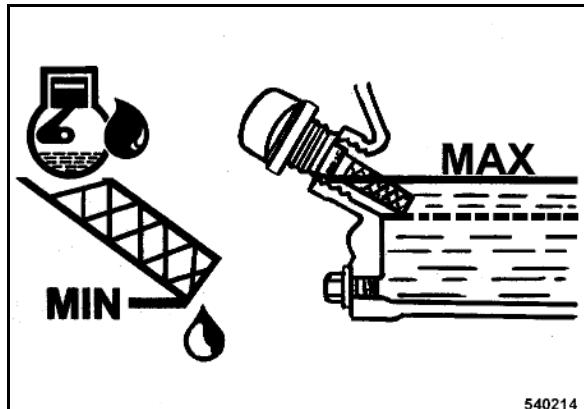

Fig. 34 □
- The oil level must reach the bottom edge of the filler bore (Fig. 34), maximum level.